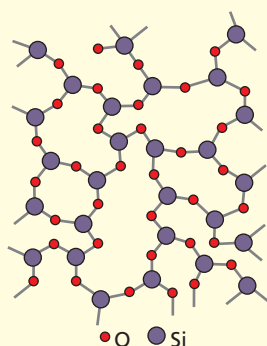

Figure 3.37 Two-dimensional structure of silicon(IV) oxide.
Glasses are irregular giant molecular structures held together by strong covalent bonds. Glass can be made by heating silicon(IV) oxide with other substances until a thick viscous liquid is formed. As this liquid cools, the atoms present cannot move freely enough to return to their arrangement within the pure silicon(IV) oxide structure. Instead they are forced to form a disordered arrangement as shown in Figure 3.37. Glass is called a **supercooled liquid**.